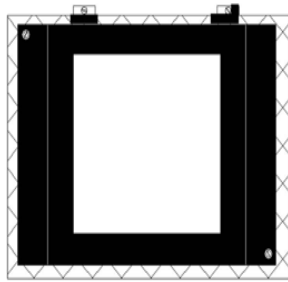

Figure 8 Tightening the plate holder to the stage
14. While holding pressure on the plate holder and maintaining the correct alignment position, tighten down the fasteners, finger tight, to attach the plate holder correctly to the Mann 3000 stage. (Figure 8)